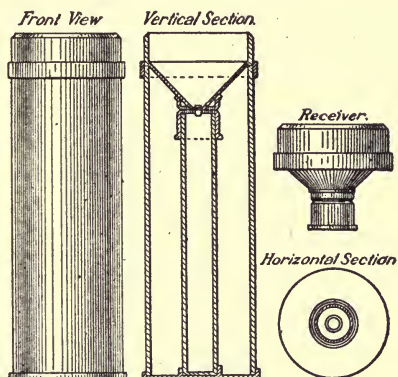

FIG. 205. — Rain gauge.
*Rain gauge.* In order to measure the amount of rain, a rain gauge is used (figure 205). This is so constructed that the area of the top of the funnel, which receives the rain, is ten times the area of the small tube in which it collects. This raises the level of the water ten times as high, and makes it easier to read. This is measured by means of a ruler and the result is divided by ten to get the true rainfall. In order to measure snow, a volume equal in area to the top of the funnel and as deep as the fall of snow is collected and melted, and the water is measured the same as the rain.